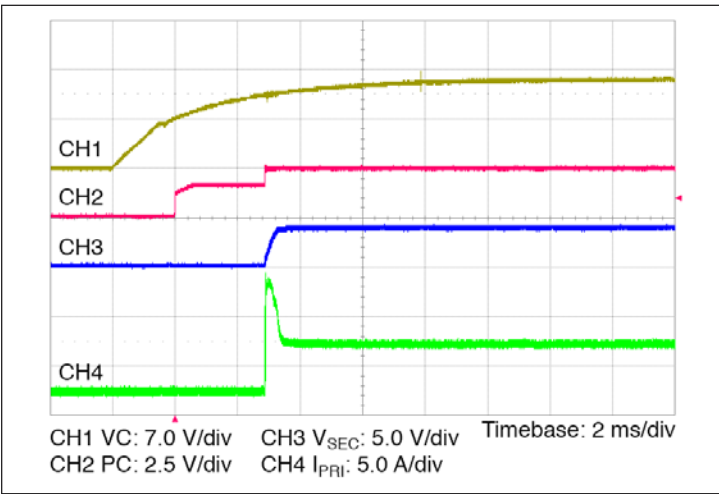

Figure 11 — Start up from application of VC;
- Stand-alone operation (VC applied after V_{PRI}): In this case the VTM secondary will begin to rise upon the application of the VC voltage (See Figure 11). The Adaptive Soft Start Circuit (See Section 11) may vary the secondary voltage rate of rise in order to limit the inrush current to its maximum level. When starting into high capacitance, or a short, the secondary current will be limited for a maximum of 1200 µsec. After this period, the Adaptive Soft Start Circuit will time out and the VTM module may shut down. No restart will be attempted until VC is re-applied or PC is toggled. The maximum secondary capacitance is limited to 1000 µF in this mode of operation to ensure a successful start.